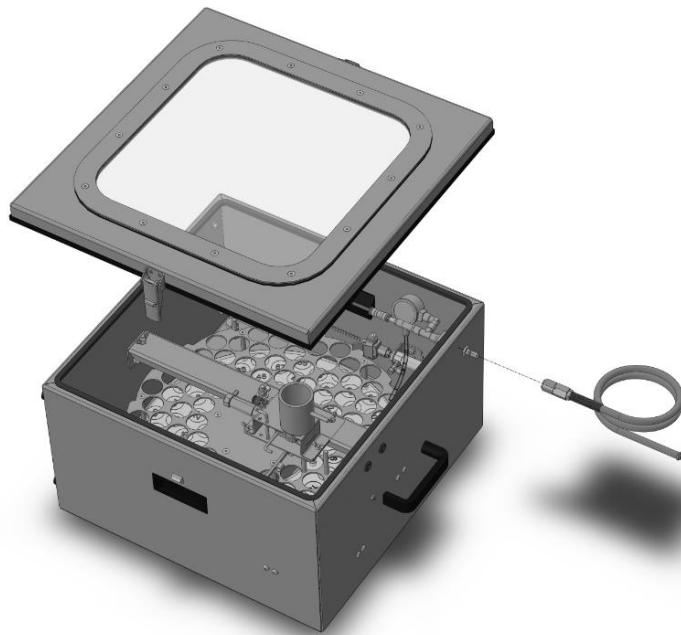

Figure 34. Air tube for sampler
1. Connect the air tube to the sampler, see figure 34